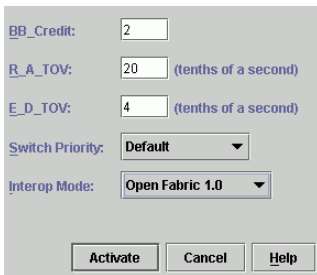

Figure 33 Configure Fabric Parameters dialog box
2. Click **Configure > Operating Parameters > Fabric Parameters** in the Element Manager window. The Configure Fabric Parameters dialog box displays, as shown in Figure 33.